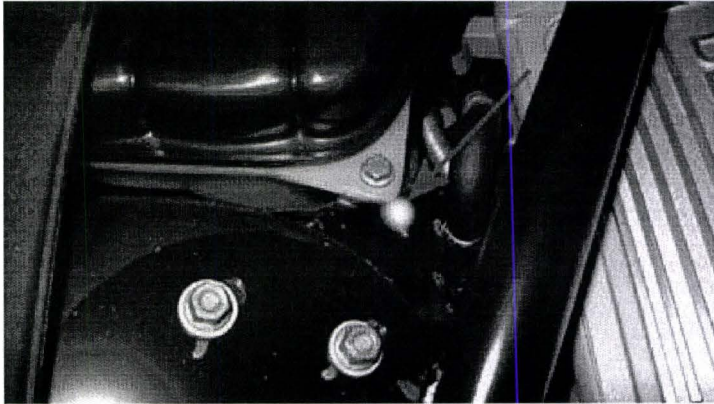

Figure 8
If the vehicle is not already listed as repaired in the "Repair history" (in Elsa Pro), check the vehicle for the Campaign identification mark, which is a White paint mark on the expansion tank bracket (Figure 8) should neither be evident please carry out the required work in accordance with the instructions.
12. Once complete, place a White paint completion mark on the expansion tank bracket (Figure 8)
White paint completion mark on the expansion tank bracket (see Figure 8)